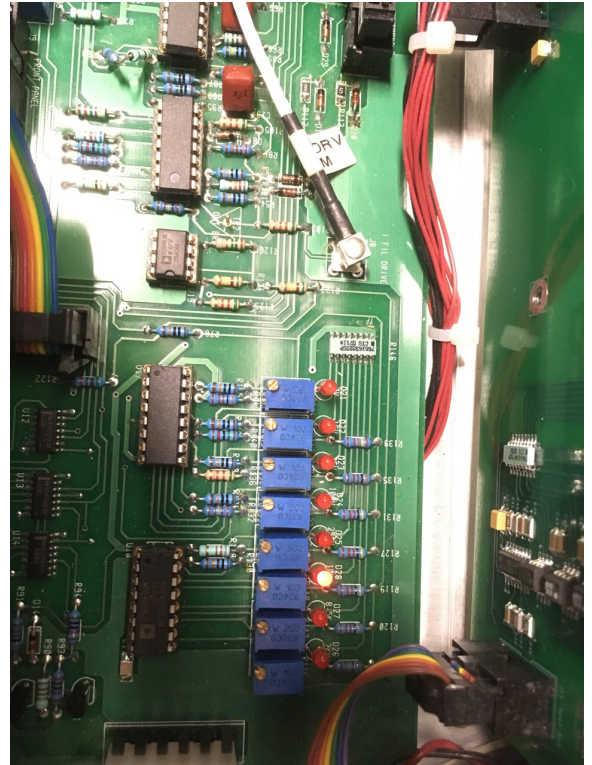

Figure 5 I_{out} control pots on board inside of 9600 power supply
5. For initial setup it is good to reduce the power (Power - $I_{Out} \times 10,000$ V) for the 500- and 800-micron spots and then adjust the power to the operating value after the spot size has been checked. This can be done using pots R129 and R133, Figure 5. These two pots are found in the back right corner of the Analog Mother board. This board sits horizontal at the bottom of the front bay. There are 8 pots in a row. R129 and R133 are in the center of this group. They are the 4th and 5th pots counting left to right. The LED behind the pot will be on when the spot is selected. Turn the pot 10 turns clockwise to drop the power to it minimum value. Select the 500 Micron spot. Use the spot size control box to set the spot size. Then turn the power control pot counter clockwise to increase the power. It may take a few turns before power begins to increase. It would be best to take the 500-micron spot to 75 watts ($I_{Out} = 7.5$ mA) and then wait 15 minutes to see how the pressure reacts. Re-set the spot size after obtaining full power. The voltage required to maintain the designated spot size increases as the power is increased. If the pressure is OK then go on to 100 watts. For the 800-micron spot use an intermediate power of 150 Watts. Then go to full power of 200 watts.